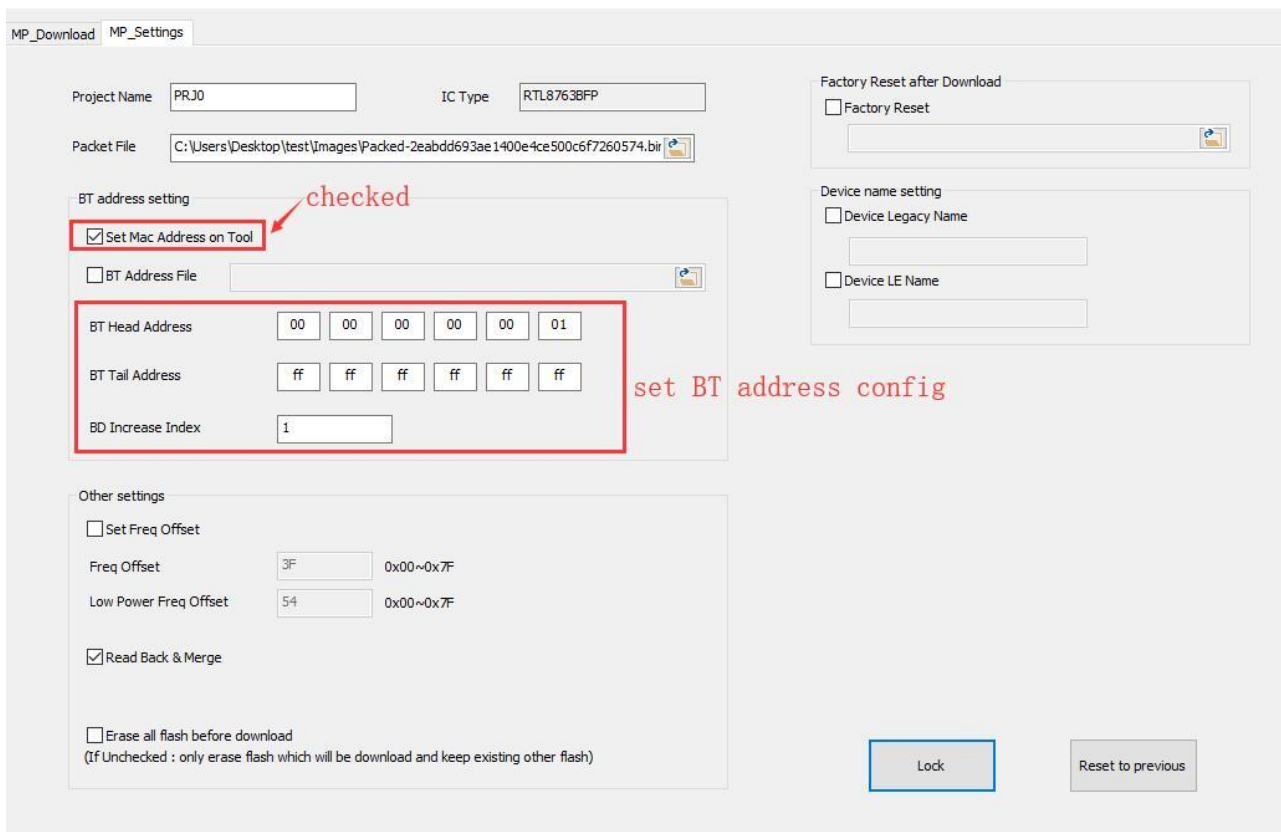

Figure 2-9 Tool manage BT address and use tool set parameter
- 1) Configure by filling addresses on UI, please do the following steps (Figure 2-9):